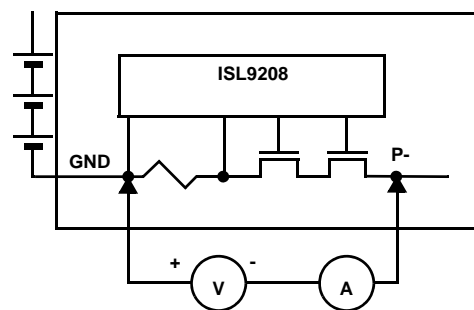

FIGURE 8. CHARGE OVERCURRENT TEST CONNECTION
- Connect the charge emulation power supply positive terminal to the board GND pin and connect the charge emulation power supply negative terminal to the board P pin. See Figure 8. A current probe can be used to monitor the overcurrent details.